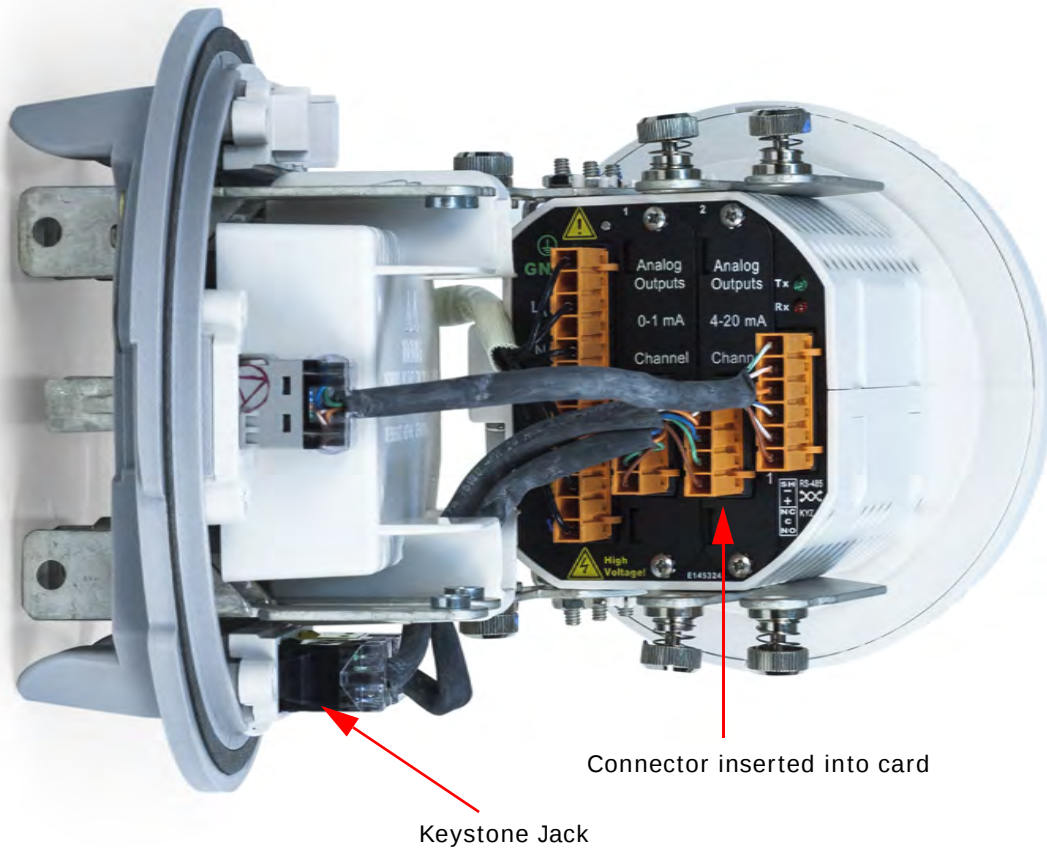

Figure 8.20: Routing Wires and Plugging Connector in the Card
- d. All wires are routed as shown in Figure 8.20: Routing Wires and Plugging Connector in the Card, on page 8-37.